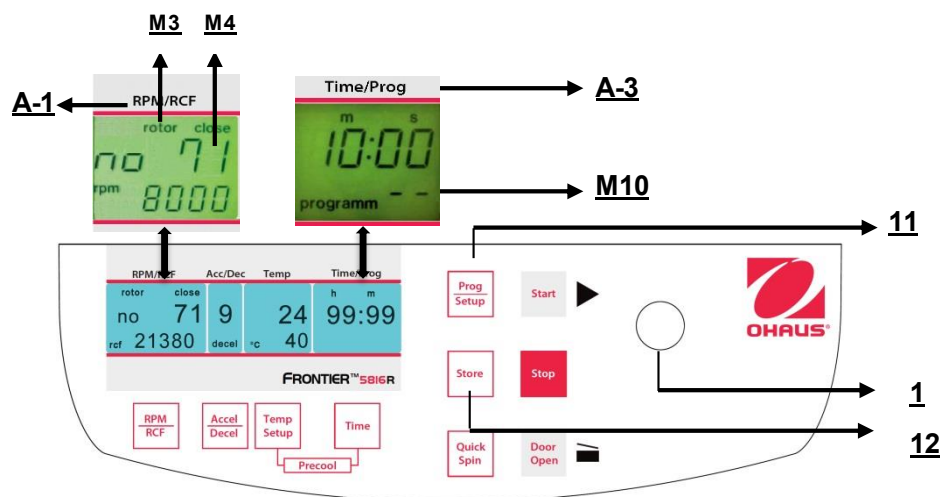

Figure. 25
To recall stored programs press the key **"Prog/Setup"** (11) (refer to figure 25) while the lid is already closed. Inside the display **"Time/Prog"** (A-3), **"programm –"** (M10) appears. The desired program number can be pre-selected with the adjusting knob (1).
To leave the program mode just press the key **"Prog/Setup"** (11) (refer to figure 25). Then inside the display **"Time/Prog"** the word **"programm"** appears.